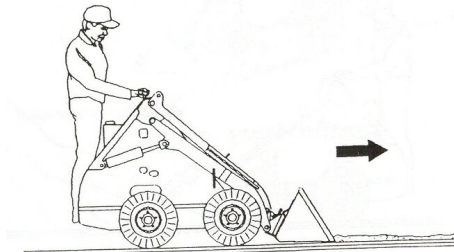

Figure 18
2. Another method of leveling is to travel forward with bucket down and level, full of material and pushing excess into low areas. Depth is controlled by tilting the bucket slightly up or down, as in Figure 18.